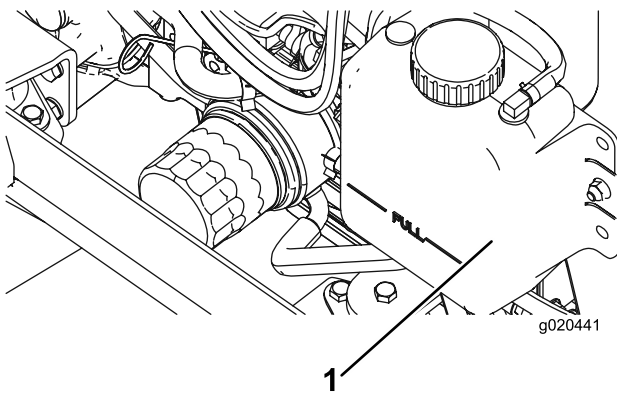

Figure 68
1. Carefully remove the radiator cap and expansion-tank cap (Figure 68).